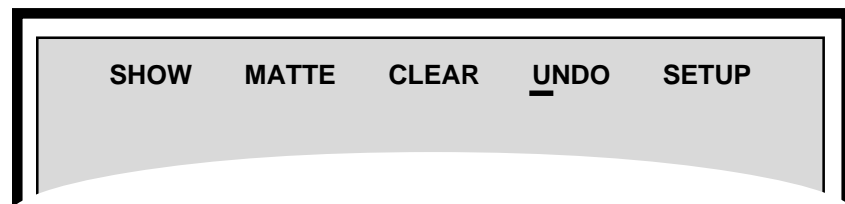

Figure 2.14
2. **Tilt the joystick to the left or right to ensure that the cursor is positioned under UNDO as shown in Figure 2.14.**